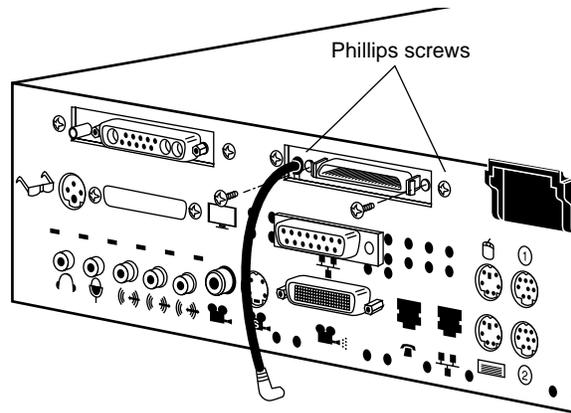

Figure 3-11 Inserting the Screws on the Exterior of the Bracket
- Insert and tighten the two Phillips screws on the exterior of the bracket to hold it to the chassis. (See Figure 3-11.)